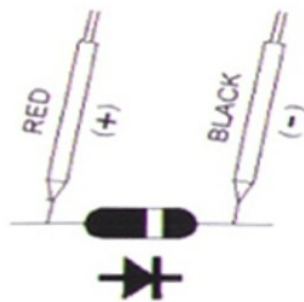

Fig. 2
- 4) a. When connected with polarity as shown in Fig. 2, a forward current flow is established and the approx. Diode Forward Voltage (VF) value in volt will appears on the display reading. If the diode under test is defective, ".000 " or near ".000 " value ( short circuit ) or " 1 " ( open circuit ) will be displayed.